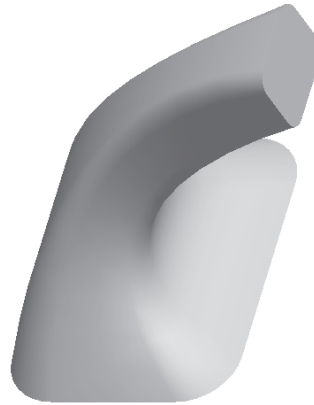

Figure 8-121 Default trimetric view of the blend feature
3. Choose the **Preview** button from the **PROTRUSION: Blend, Parallel, Regular Sections** dialog box; the preview of the model is displayed. Now, choose **OK**; the default trimetric view of the blend feature is created, as shown in Figure 8-121.